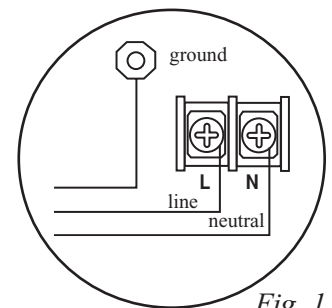

Fig. 1
2. Connect green lead to earth ground (*Fig 1*). Connect the line (L) and neutral (N) terminals to a separate unswitched AC circuit (120VAC, 60Hz) dedicated to the Fire Alarm System.